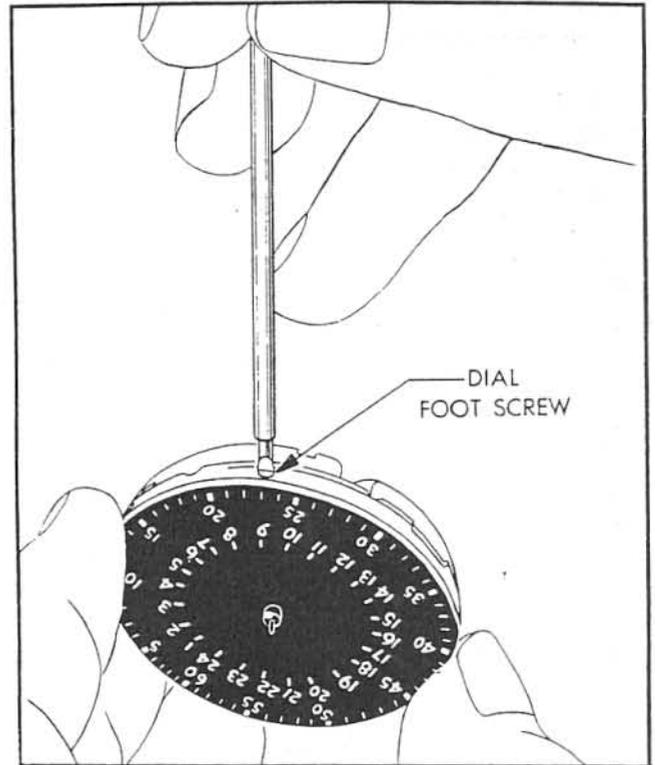

Figure 11—Removing Dial Foot Screws
(1) **DIAL.**—Remove the three dial foot screws located around the edge of the pillar plate (figure 11). This will allow the dial to be lifted off with the fingers. Then remove the hour wheel and cannon pinion underneath.